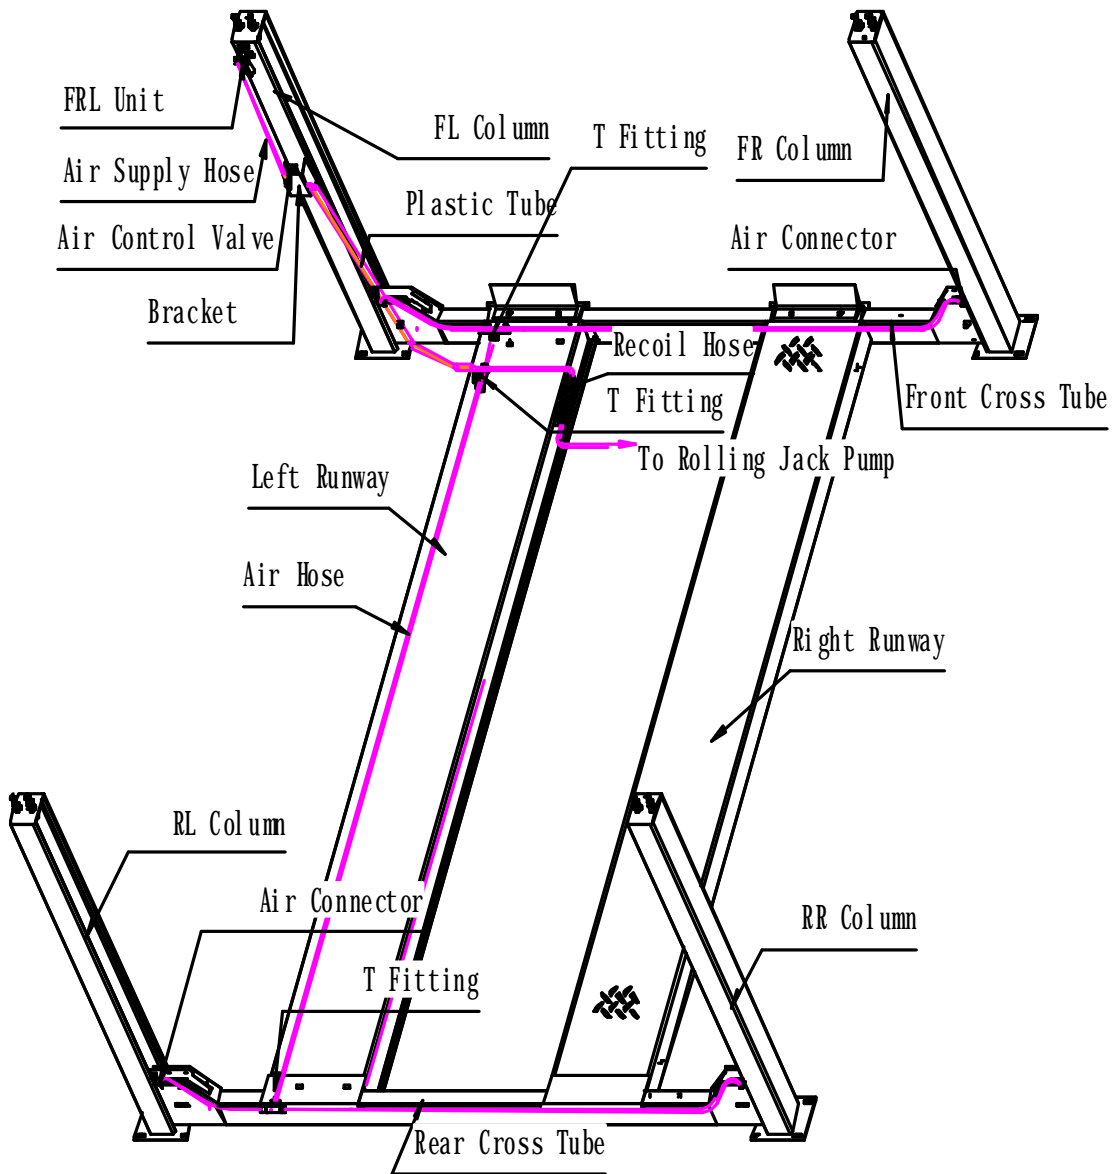

Fig.15
- I Route the air lines based on Fig.15 and check for air